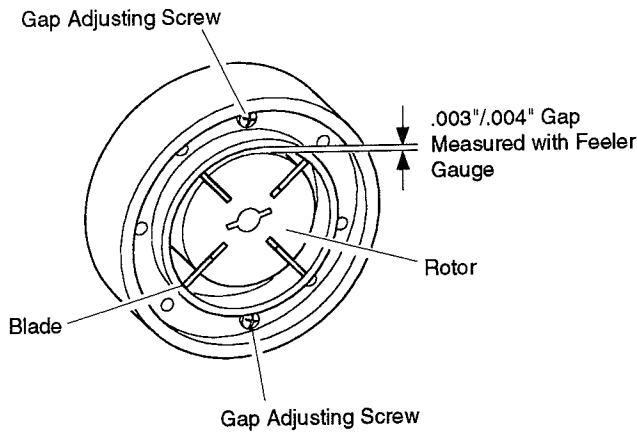

Figure 31 - Gap Adjusting Screw Locations
9. Check gap on rotor. Adjust to .003"/.004" if needed (see Figure 31).